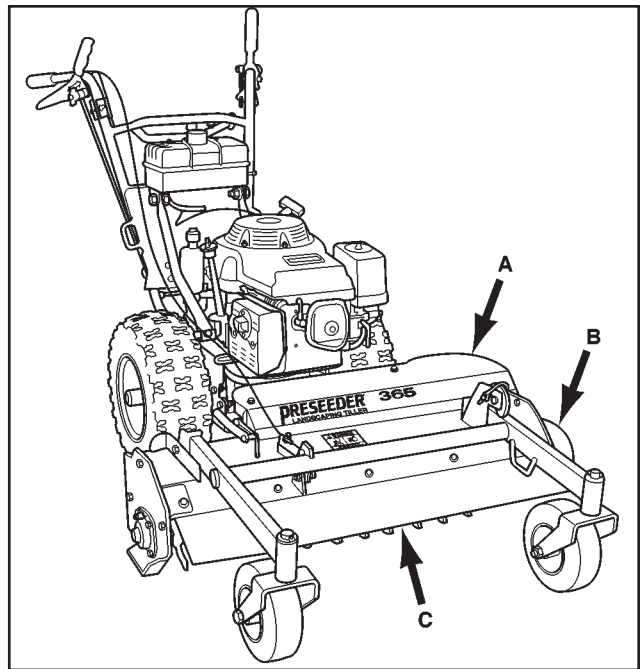

FIGURE 7 Check All Shields
NOTE: Do not operate the machine with loose or missing shields. Replace missing shields immediately (See Figure 7).
1. Place the throttle control to the CHOKE position (See Figure 7).